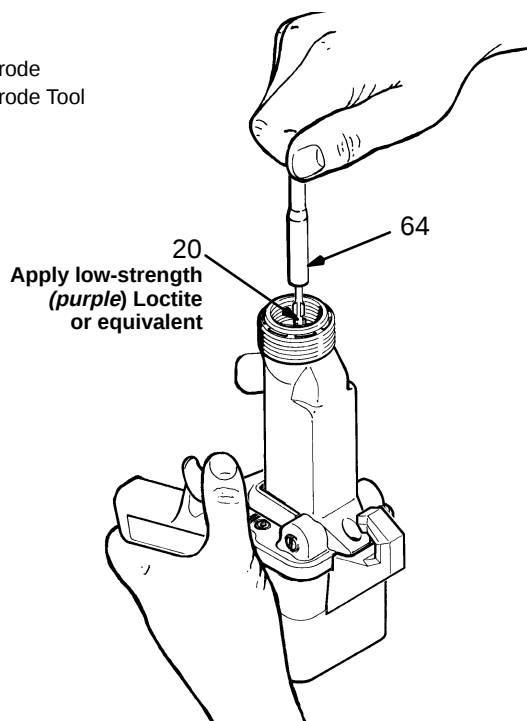

Fig 19
3. Lubricate the o-ring (25) with petroleum jelly and install it on the resistor stud (22).
4. Using 8 mm hex key (62), install resistor stud (22) in the fluid nozzle (21). Tighten to 10 in-lb (1.12 N•m).
NOTE: Make sure the electrode (20) is tightened properly, as shown in Fig 19, page 25
5. Trigger the gun while installing the fluid nozzle (21) and resistor stud (22) assembly with the nozzle wrench (70). Tighten until the fluid nozzle seats in the gun barrel.
2. Unscrew and remove the fluid needle/electrode (20) with the electrode tool (64) provided. See Fig 19. If the needle shaft turns, hold the needle shaft assembly by placing a screw driver blade into the slot on the shaft, near the trigger.